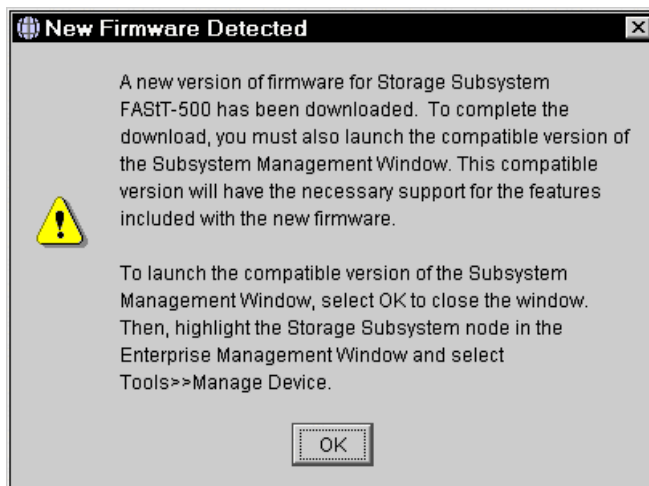

Figure 7-11 New Firmware Detected
2. When the download is finished, you receive a message (Figure 7-11) telling you that new firmware has been detected and that you should relaunch the Subsystem Management window.